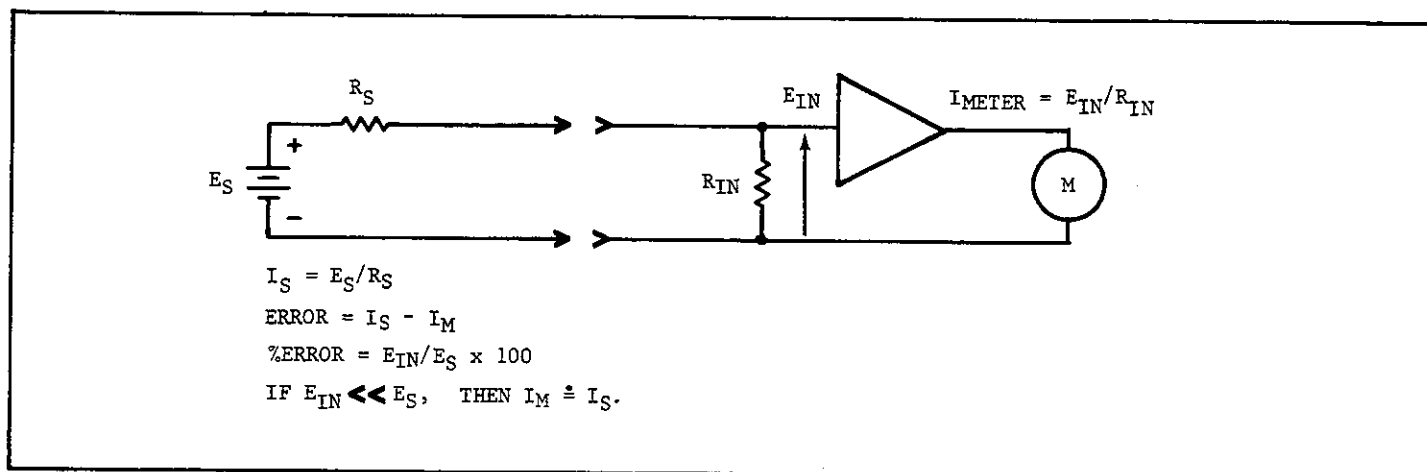

FIGURE 6. Current Measurements, Loading Error.
2. Connect the 610C input terminals in series with the current to be measured. Unlock the ZERO CHECK switch to make a reading. Increase the sensitivity using the RANGE switch. The full scale current is determined by multiplying the RANGE setting times the Multiplier setting. Use the smallest Multiplier setting to obtain the best accuracy. The input voltage drop of the 610C in the NORMAL mode is a function of the Multiplier setting and therefore the loading error should be noted as shown in Figure 6.